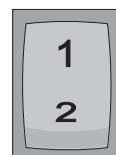

Figure 2
To adjust the fuel quantity accordingly at higher altitudes, a second pump (Figure 1-4) is installed parallel to the standard pump. This has a smaller delivery volume. It is possible to switch between the two pumps via a changeover switch (Figure 2) inside the vehicle.
- Set the switch (Figure 2) to position 1. The heater can be operated at altitudes of up to 1500 m.
- Set the switch (Figure 2) to position 2. The heater can be operated at altitudes of 1500 m to 2750 m.